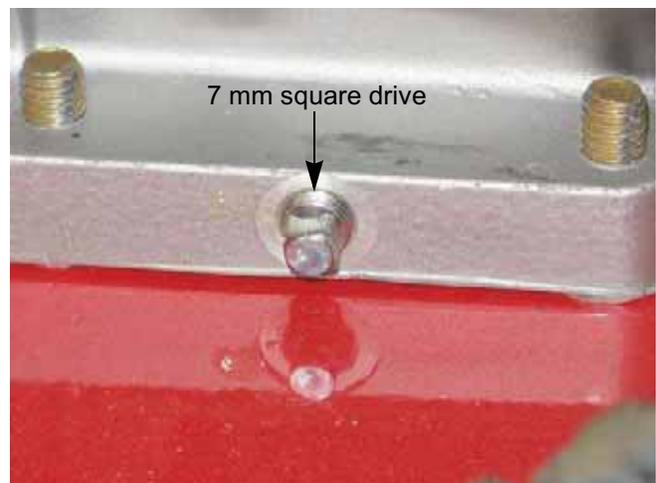

Figure 1.9
**NOTE:** Some engines have a 7 mm square drain plug. See Figure 1.9.